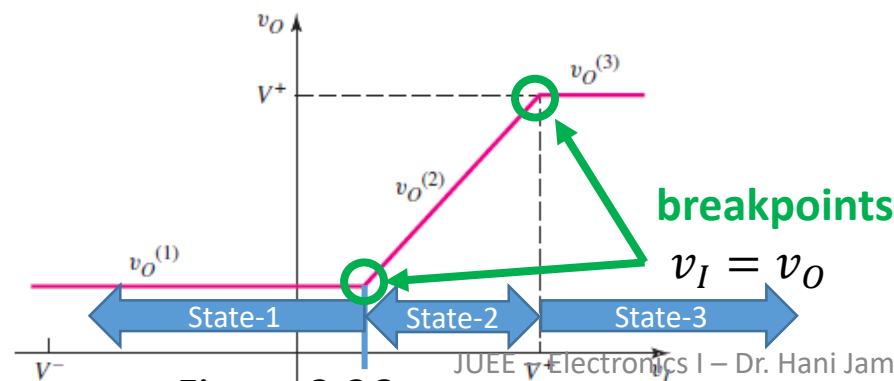

Figure 2.36
- Figure 2.36 shows the resulting plot of  $v_o$  versus  $v_I$ .